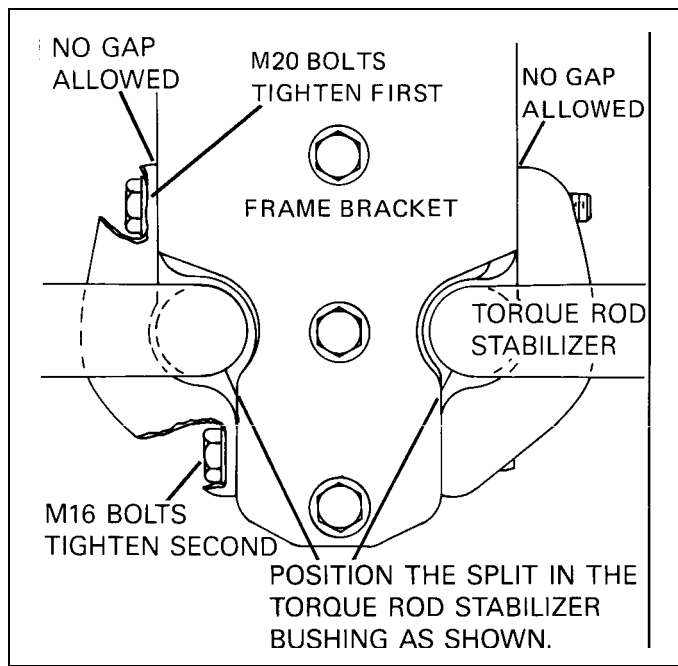

Figure 17-9
NOTE: Position the split in the rubber bushing as illustrated in Figure 17-9. To prevent any gap between the cap and the frame bracket, tighten the top two bolts on each side first.
4. Near the frame on each side, suspend a plumb bob from the straight edge. On each side of the vehicle, measure the distance A between the plumb bob at the front spring drive pin (steering axle) and the plumb bob at the straight edge. See Figure 17-9. Adjust the straight edge until the dimensions from left to right are equal. Clamp the straight edge to the frame, then recheck the measurements. They must be equal.
5. Using a trammel bar, place the pointers in each axle center on one side of the vehicle. Allow the bar to extend forward under the straight edge. While holding the trammel bar in this position, suspend a plumb bob from the straight edge so that it passes next to the trammel bar at the intersecting point. See Figure 17-9.